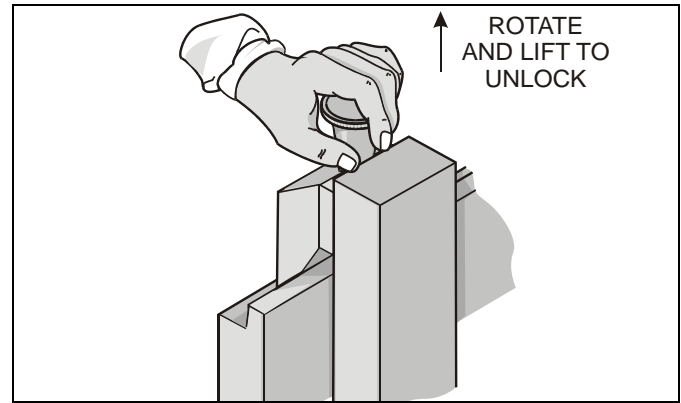

Figure 4-2: Setting the Forks
2. Lift the fork locks up. See Figure 4-2.